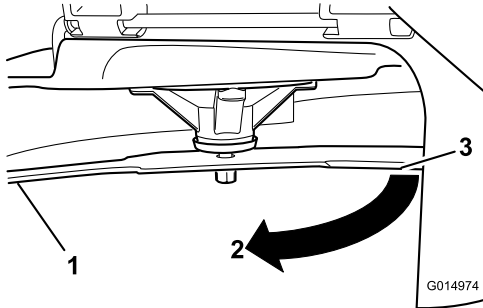

Figure 47
3. Second measured distance between blade and surface (B)
4. Rotate the same blade 180 degrees so that the opposing cutting edge is now in the same position (Figure 47).